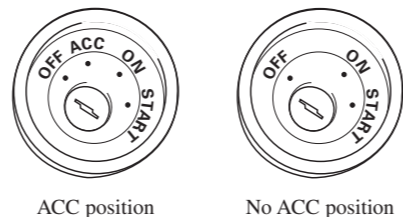

Fig. 1
- This unit can not be installed in a vehicle that does not have an ACC (accessory) position on the ignition switch. (Fig. 1)**